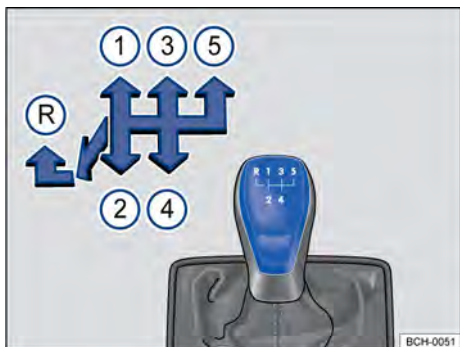

Fig. 92 Gear shift pattern of a 5-speed manual gearbox.
Each gear position is illustrated on the gear lever → Fig. 92.
- Push the gear lever fully to the left and then to the front in the reverse gear position → Fig. 92 Ⓡ.